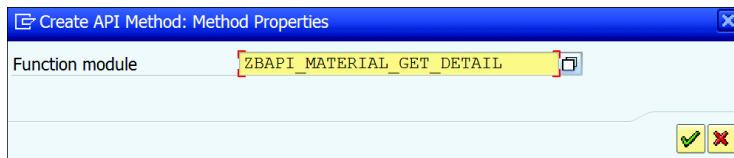

Figure 19.18 Add Function Module
- Once you start the wizard by selecting the menu path UTILITIES • API METHODS • ADD METHOD, enter the function module name that should be added as an API method, as shown in Figure 19.18, and click the green checkmark.